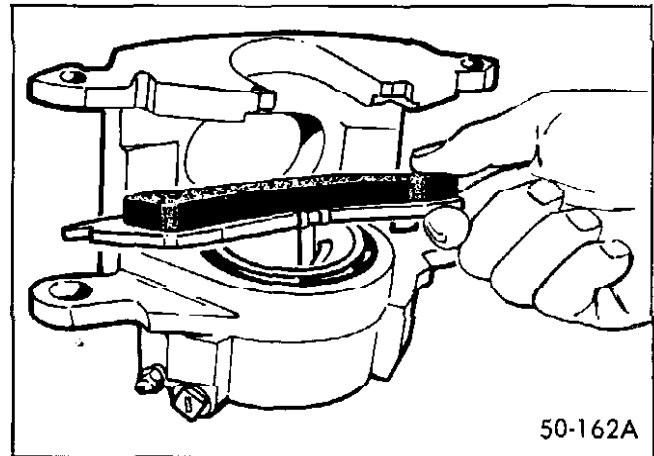

Figure 50-51--Inserting Shoe Support Spring
3. Install the shoe support spring by replacing the single tang end of the spring over the notch in the center of the edge of the shoe. Then press the two tangs at the spring end of the inboard shoe spring over the bottom edge of the shoe so that they engage the shoe securely, as shown in Figure 50-51.